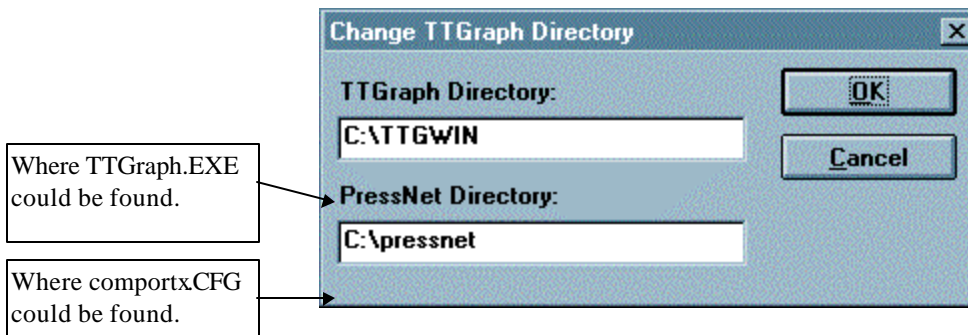

Figure 2: Directory window.
6. Type appropriate directories for TTGraph and PressNet. (See Fig. 2).